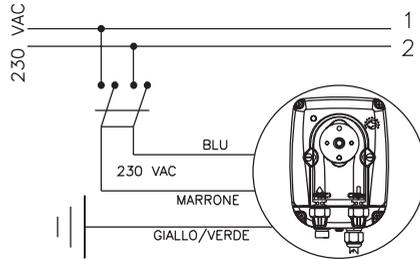

Fig. 4
1. Disconnect the plug from the mains or by means of a onnipolar switch with 3 mm minimum distance between the contacts. (Fig. 4).
- b. - Carefully observe the regulations in force in the various countries as regards electrical installations (Fig.4). When the supply cable is devoid of a plug, the equipment should be connected to the supply mains by means of a single-pole circuit breaker having a minimum distance of 3 mm between the contacts. Before accessing any of the electrical parts, make sure that all the supply circuits are open.